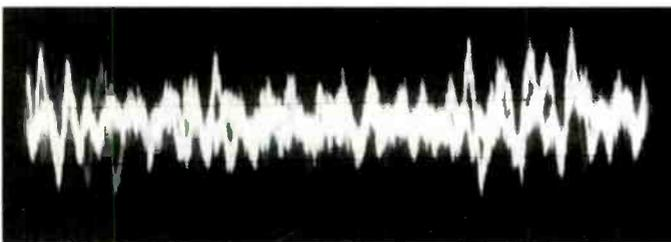

Figure 5. The focus error (FE) signal is taken at the RF amplifier IC or transistor circuit.
Presence of the focus error (FE) signal waveform indicates that the correct focus signal is reaching the RF amp to the focus servo IC (Figure 5). Adjust focus gain and offset for maximum output. The focus offset may include the RF and EFM adjustments, or they may be separate adjustments, depending on the manufacturer of the CD player.